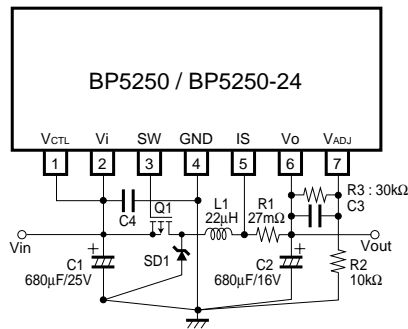

Fig.4
(1) Application circuit example is shown in the Fig.4.